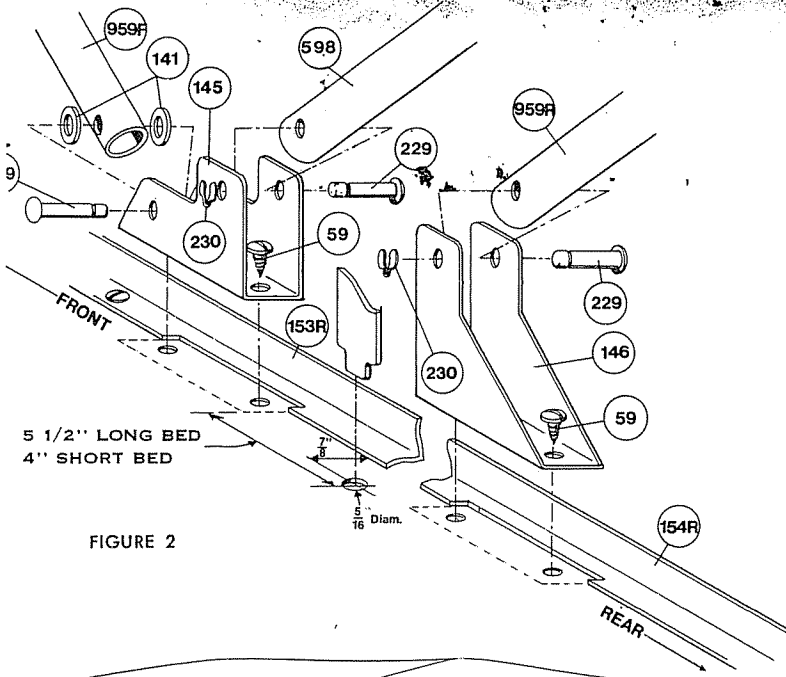

FIGURE 2
5. Position No. 145 front-bow-mounting-brackets, with lower step forward, in 3" x 1/4" slots provided in middle of each front-side-rail. SEE FIGURE 2. Using holes in base of bracket as a guide, drill 3/16" diameter holes through top surface of side panel and secure using #14 x 1/2" self-tapping screws.
7. Attach No. 959-F front-bow-extensions ($\frac{3}{4}$ " diameter), with telescoping release buttons facing upward, to lower set of holes in each front-bow-mounting bracket using No. 229 grooved-pivot-pins and No. 230 retaining-snap-rings. Insert pins with heads toward inside of vehicle and place one No. 141 washer on each side of bow-extension and inside mounting-bracket. SEE FIGURE 2. Slide ends of front-bow (either short bow) over telescoping sections attached to front-bow-mounting-brackets.
10. Measure $5\frac{1}{2}$ " long (long bed vehicles) or 4" (short bed vehicles) back from front-bow-mounting bracket and $\frac{7}{8}$ " in from inner edge of left and right front rails: drill a $\frac{5}{16}$ " diameter hole through the top of each side panel. SEE FIGURE 2.